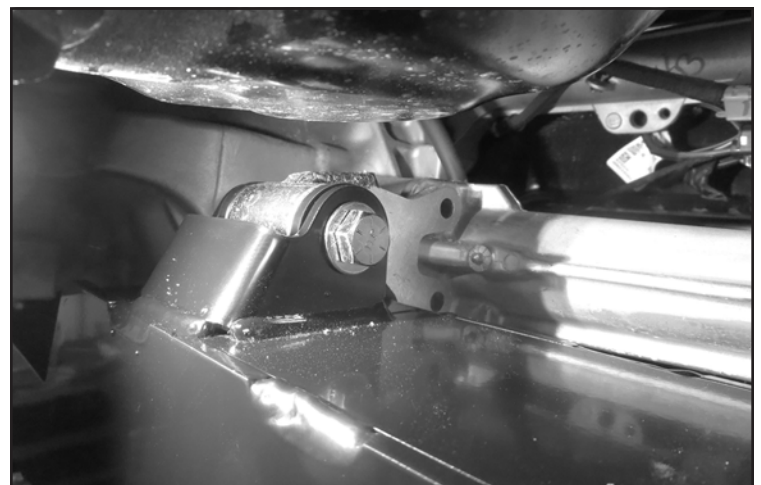

FIGURE 37 - STEP 28
28. Install a 1/2" x 3-3/4" bolt, washers and nut through the tabs on the rear crossmember and the bushing on the center bracket. Torque the M10-1.5 x 45mm bolts to 35 ft-lbs. Torque all the 1/2" hardware to 106 ft-lbs.. **SEE FIGURE 37**